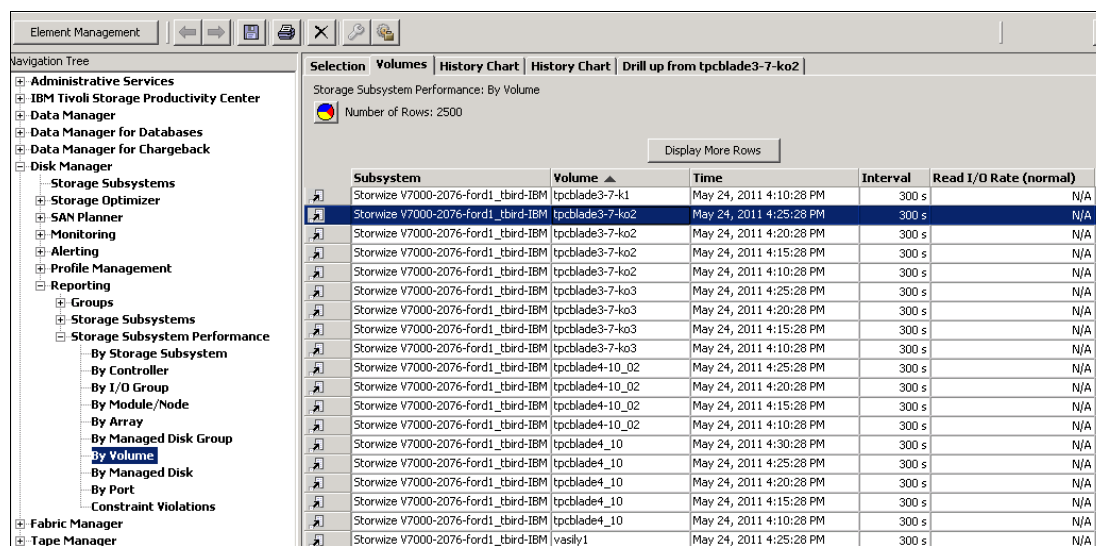

Figure 13-112 Drilling up to determine the MDisk
- a. To identify to which MDisk the tpcblade3-7-ko2 VDisk belongs, in the Volumes tab (see Figure 13-112), click the drill-up icon ().